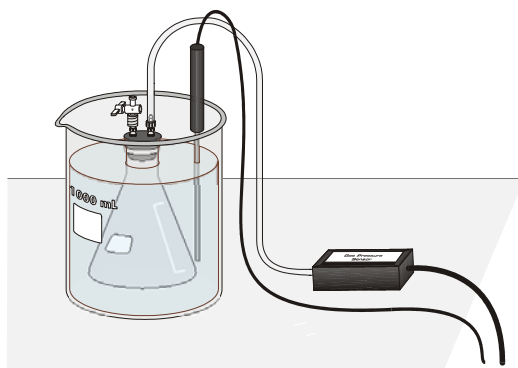

Figure 2
In this experiment, you will study the relationship between the absolute temperature of a gas sample and the pressure it exerts. Using the apparatus shown in Figure 2, you will place an Erlenmeyer flask containing an air sample in a water bath and you will vary the temperature of the water bath.
7. Assemble the apparatus shown in Figure 2. Be sure all fittings are airtight. Make sure the rubber stopper and flask neck are dry, then twist and push hard on the rubber stopper to ensure a tight fit.